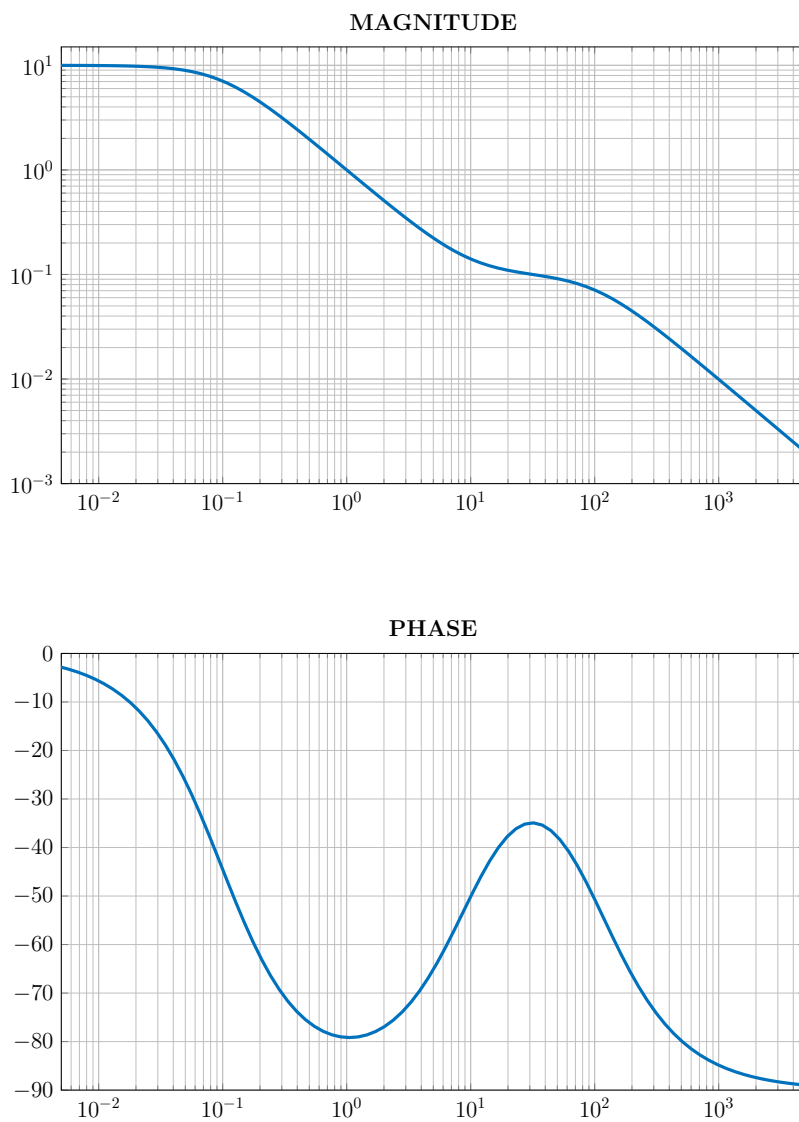

Figure 2: Bode plot (frequency in radians, magnitude in absolute, phase in degrees).
- (b) What transfer function would have produced the Bode plot shown in Figure 2? Use the smallest number of poles and zeros that give a reasonable fit.